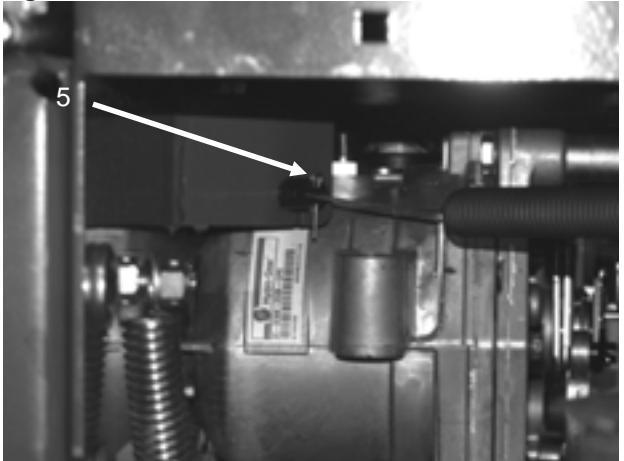

Figure 36
5. Remove cotter pin and release cable from bracket **Figure 36**.